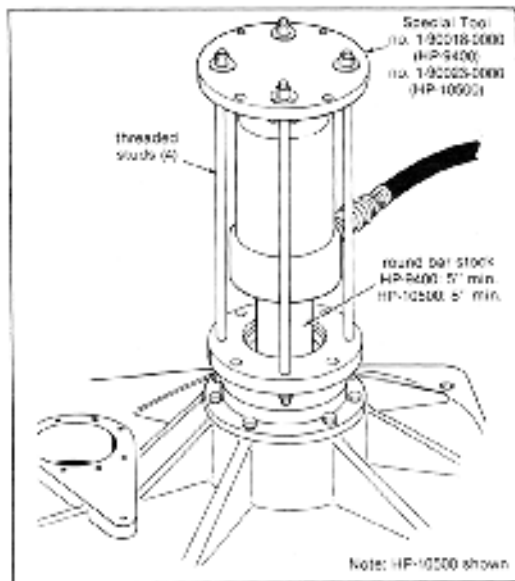

Fig. 32. Removing Output Coupling from Shaft.
3. With suitable puller pull output coupling from output shaft (see fig.32).